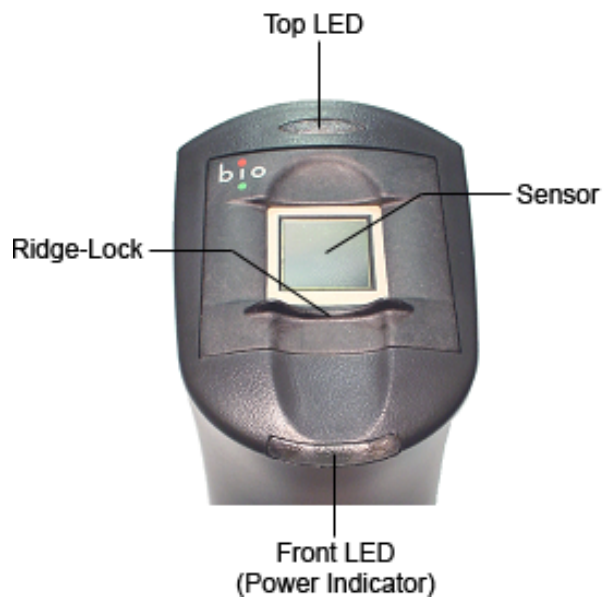

Figure 1: Top View
***NOTE:** Older MV1100-based Veri-Series readers have a different plastic housing and appear much differently than Figures 1 – 5; however, they contain the same basic components. Also, the V-Station models look substantially different than Figures 1 – 5, but still contain essentially the same components.